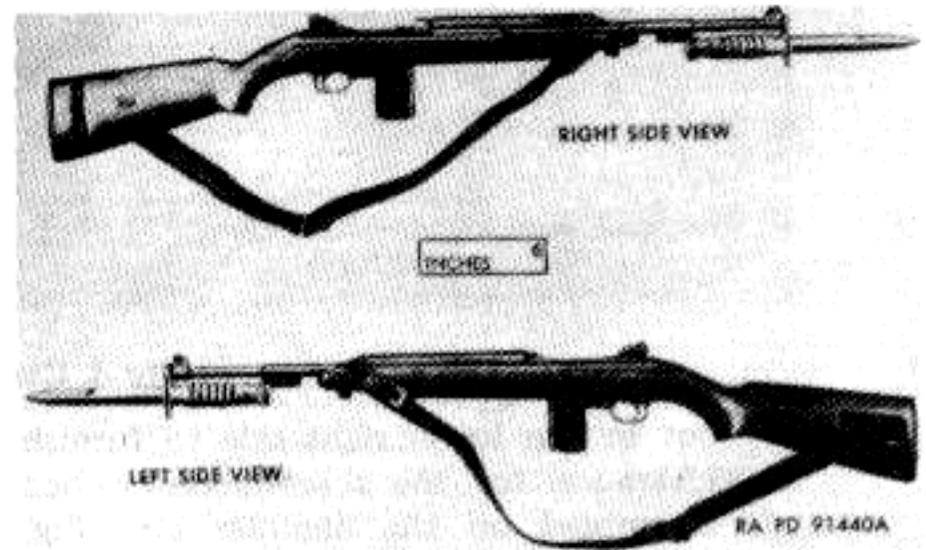

Figure 1. Cal. .30 carbine M1.
b. *Cal. .30 Carbines M1 and M1A1* (Figs. 1 and 2). The only difference between the carbines M1 and M1A1 is the stock. The M1 has a one-piece wooden stock, whereas the M1A1 has a folding metal stock extension and a wooden hand grip.